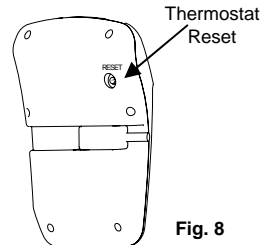

Fig. 8
- Push the thermostat reset button located on the back of the control panel with the back of a ball point pen. (Fig. 8) The unit will beep to indicate that it has re-set.